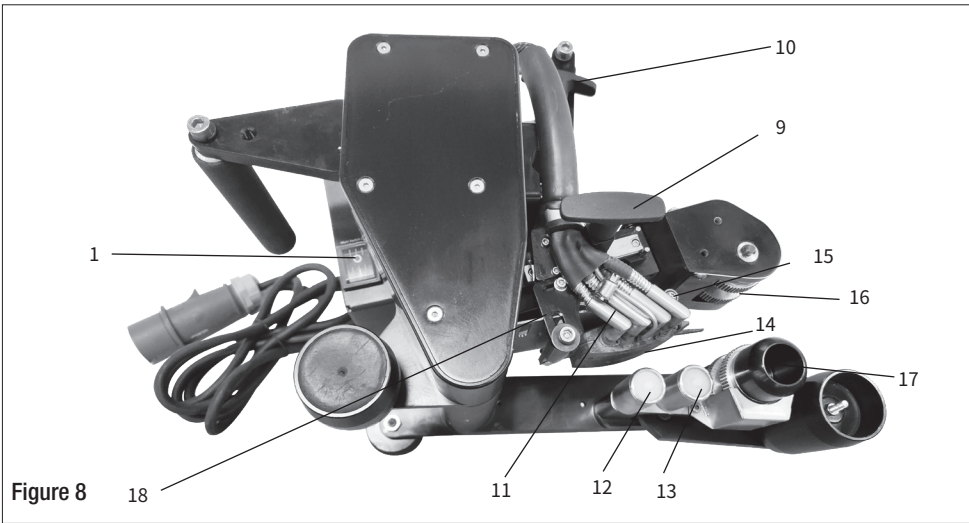

Figure 8
**Start the loading process with the nip lever in the “up” or disengaged position, the heating wedge in the “forward” or disengaged position (Figure 8), and the motor on with the nip rollers turning.**